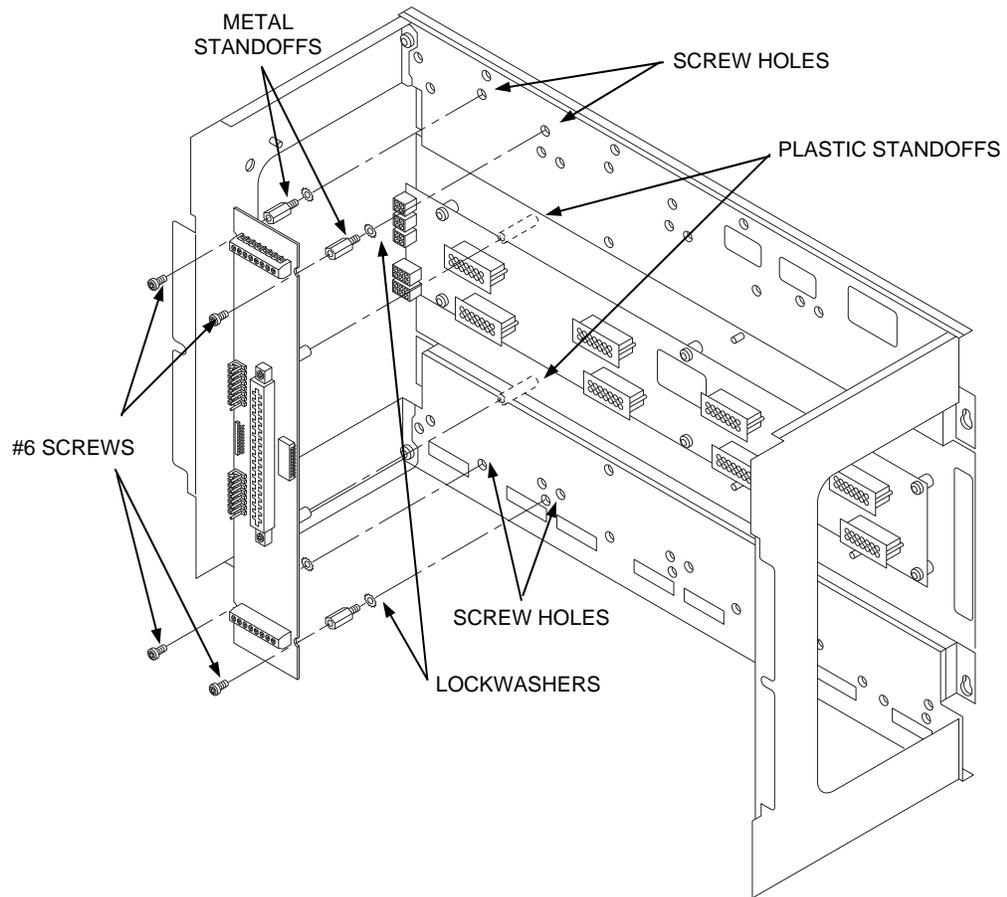

Figure 7. Installing the Motherboard in a 4100U/4100ES Expansion Bay
4. Secure the motherboard to the standoffs using four #6 torx screws as shown in Figure 7.